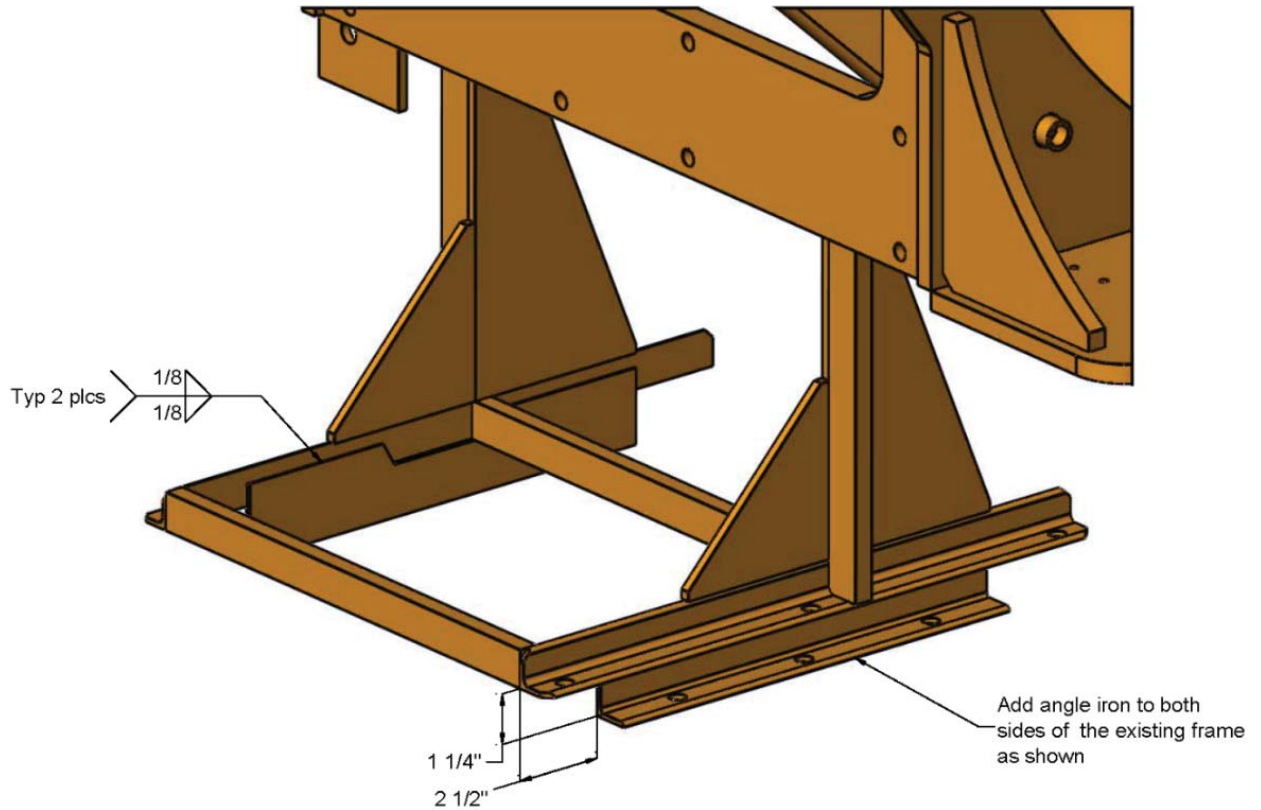

Figure 7: Welding Angles
- Position the angles (from Step 1 on page 5) on the bracket and weld them in position as shown in the sketch in Figure 7. Use a weld procedure suitable for ASTM A36 or equivalent.